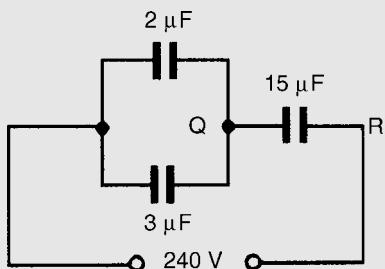

Figure 6.9
**Problem 14.** For the arrangement shown in Fig. 6.9 find (a) the equivalent capacitance of the circuit, (b) the voltage across  $QR$ , and (c) the charge on each capacitor.